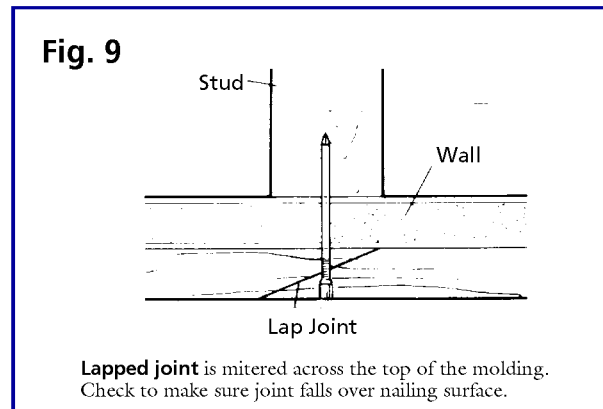

Fig. 9
**Lapped Joints.** If molding must be pieced along a wall, miter both pieces to make a smooth 45-degree joint that can be tied together with a single nail (Fig. 9). The miter cuts are made with the molding positioned straight up against the back of the miter box in the position that it would fit against the wall when installed.